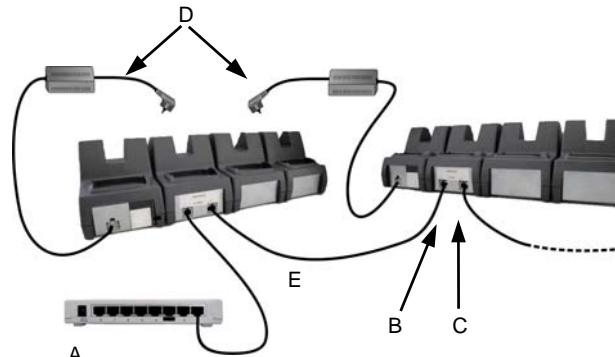

Figure 4 - Daisychaining Ethernet Connection
1. Connect the first Ethernet cradle to power and to the Ethernet Switch as shown on Figure 4.
4. Connect additional cradles as shown in Figure 4.